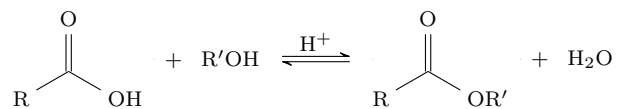

Figure 4.34: Fischer esterification.
4. Acid catalyzed esterification: Fischer esterification (Figure 4.34).